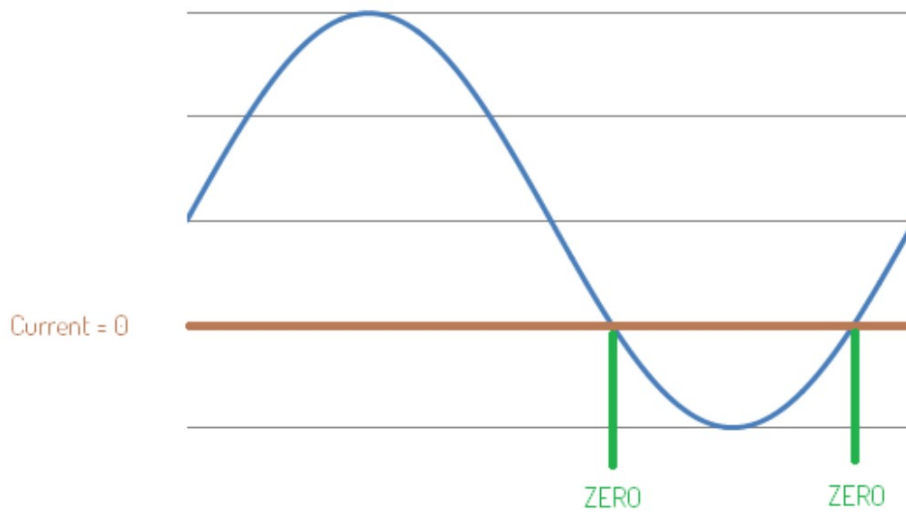

Figure 94. Trigger out event - zero level crossing
- ZERO (zero level) – A signal changed the polarity (only applicable to tACS) (Figure 94)